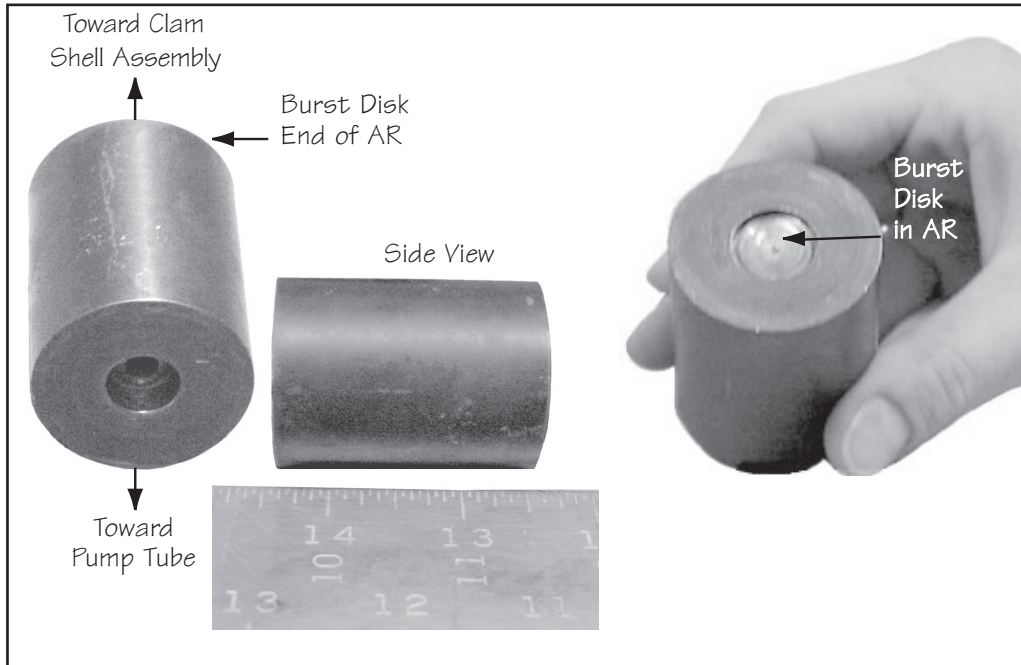

Figure 4.1-10.
4.1.4.1. **Place** a burst disk into the AR section (Figure 4.1-10).